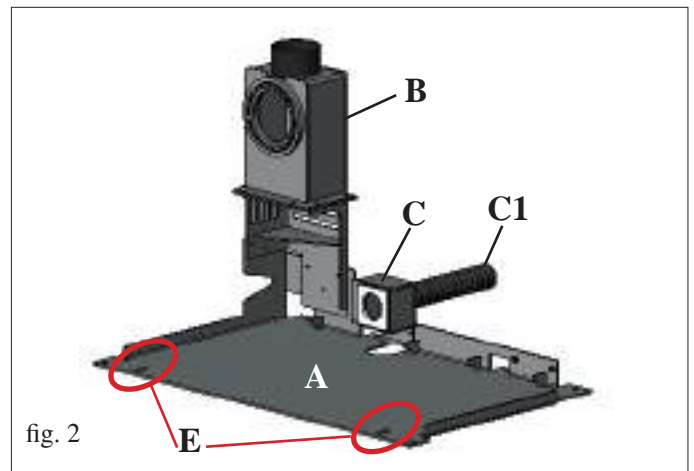

fig. 2
- Secure the base plate (A – Fig. 2) on the base using bolts through the holes positioned on the perimeter of the plate (X – Fig. 5).
- Replace the insert (Fig. 4) by sliding it on the base plate (A – Fig. 2) until it stops (the insert must fit in the two slots (E – Fig. 2) in the front part of the base plate (A – Fig. 2), taking care that the power supply cord is not crushed between the two plates.